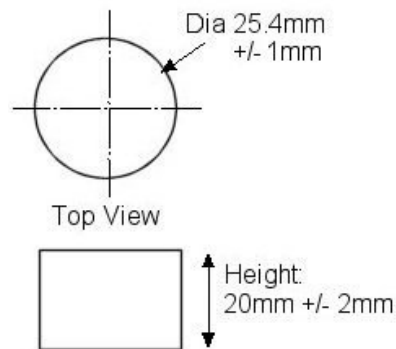

Figure 2 Specification of coloured pellet
- 3.1 The coloured pellets will have a diameter of 25.4mm (1 inch) and have a general height of 20mm +/- 2mm height variation. (See figure 2)